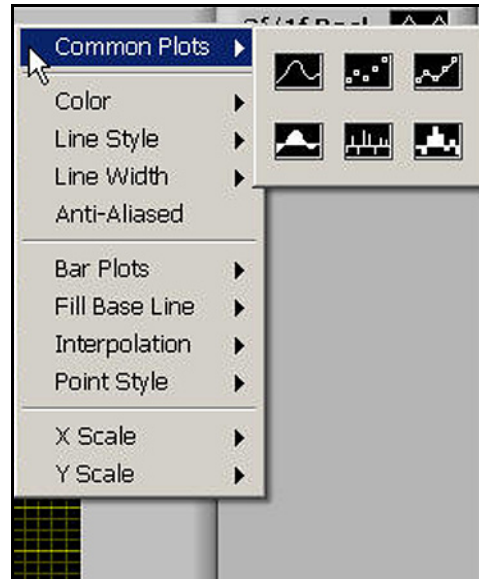

Figure 74: Options for Graphing Data
2. If you right-click on any series of data within the graph, or you click on the current parameter being-trended item in the legend, you will see a variety of options for graphing data (see *Figure 74* below). You can change to a variety of common plots and adjust color, line style, and line width. For some data sets with lots of finite points, you may want to click Anti-Aliased which will smooth the plot line. You can also change bar plots, fill base line, interpolation and point style. X-Scale adjusts the x-scale. Y-Scale adjusts the y-scale and enables the secondary y-axis.